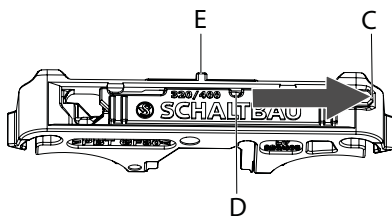
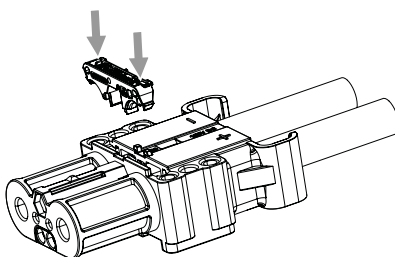

Fig. 49:
Fig. 50:
2. Ensure that the latch on the slider is in the unlocked position (Fig. 49).
- Latch pushed fully to the right (C).
- Recess (D) of the latch and bar (E) of the main body are not aligned over each other.
4. Push the slider in on both sides until it audibly clicks into place (Fig. 50).